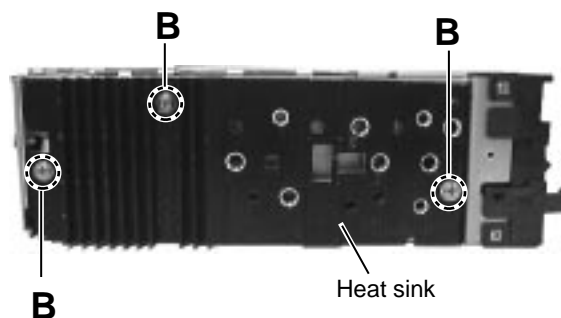

Fig. 4
■ Removing the heat sink (See Fig.4)